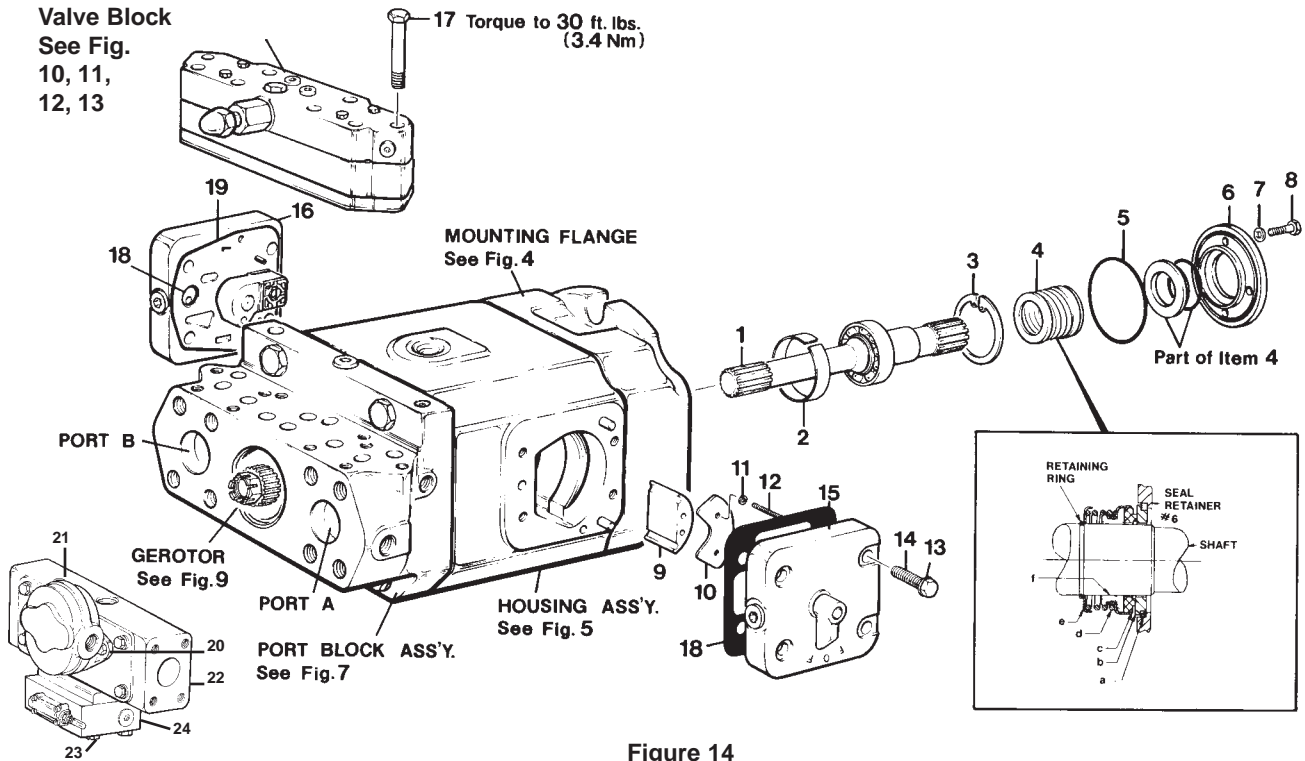

Figure 14
PARTS LIST FOR FIGURE 14
See figure 14. Stand the pump in an upright position with the port block inlet and outlet pads turned down.
**Warning:** When installing a new mechanical shaft seal, exercise care to insure that all of the parts fit together properly. This is particularly important if the seal was once assembled and disassembled for some reason. If the rubber boot, item 4, grips the shaft and doesn't slide on the shaft, as it is disassembled, then the spring, item 7, can disengage the shell, item 5, from the band, item 6, so that they do not re-engage properly when reassembled. Be sure the shell and the band are properly engaged before reassembling the seal, and stays engaged during assembly.
See figure 14. The seal assembly (4) is available as a complete unit only.